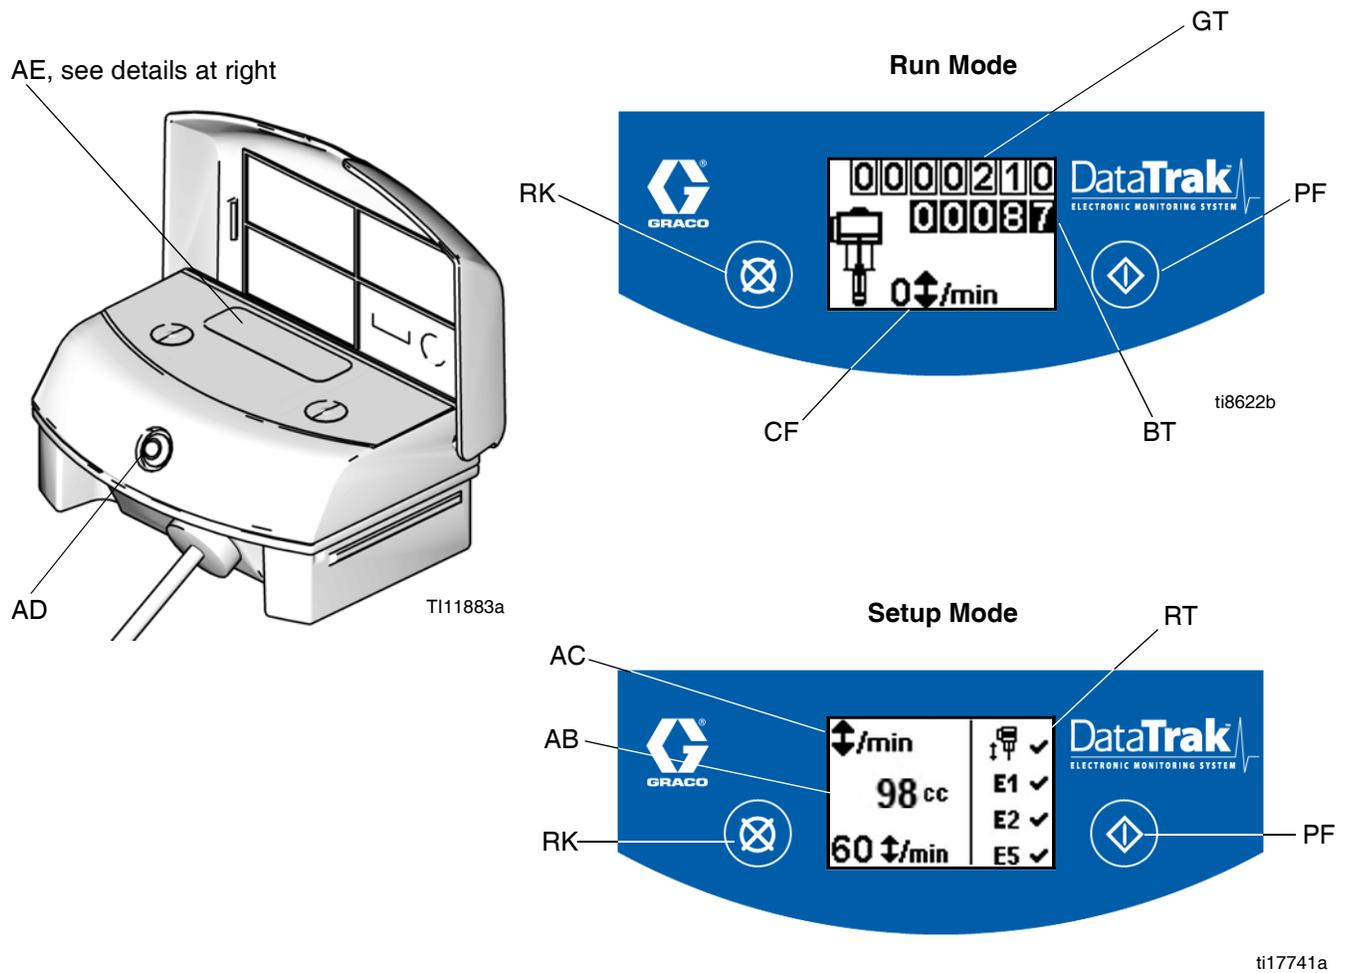

FIG. 4. DataTrak Controls and Indicators
Key for Fig. 4
1. See FIG. 4, page 33. Press and hold  for 5 seconds until Setup menu appears.
1. See FIG. 4, page 33. To enter Prime/Flush mode, press any key to wake up the display, then press . The Prime/Flush symbol will appear in the
See FIG. 4, page 33. The last digit of the batch totalizer (BT) represents tenths of gallons or liters. To reset the totalizer, press any key to wake up the display, then press and hold  for 3 seconds.
See FIG. 4, page 33. The display (AE) will turn off after 1 minute of inactivity in Run mode or 3 minutes in Setup mode. Press any key to wake up the display.
DataTrak can diagnose several problems with the pump. When the monitor detects a problem, the LED (AD, FIG. 4) will flash and a diagnostic code will appear on the display.